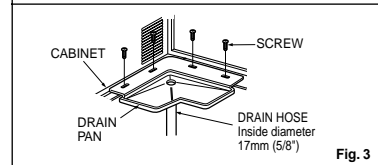

Fig. 3
2. Install the drain pan over the corner of the cabinet where you removed the plug with 4 (or 2) screws. (See Fig.3)
3. Connect the drain hose to the outlet located at the bottom of the drain pan. You can purchase the drain hose or tubing locally to satisfy your particular needs. (Drain hose is not supplied). (See Fig.3)
4. Select the most appropriate connection from among the figures to the right (by considering the hole of the unit) to fit drain pan to your own unit. (See Fig.3)
3. Loosely assemble the sill support using the parts in Fig. 3.